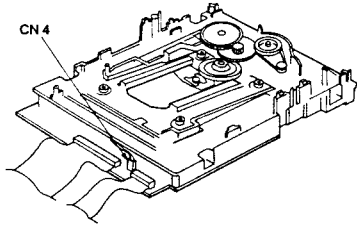

Figure 20
- (5) Disconnect the connector (CN 4) as shown in Figure 20.